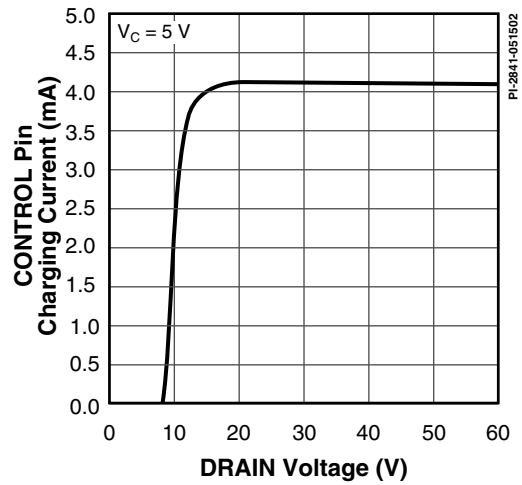

Figure 45. I_c vs. DRAIN Voltage.
- D. It is possible to start up and operate DPA-Switch at DRAIN voltages well below 16 V. However, the CONTROL pin charging current is reduced, which affects start-up time, auto-restart frequency, and auto-restart duty cycle. Refer to Figure 45, the characteristic graph on CONTROL pin charge current (I_L) vs. DRAIN voltage for low voltage operation characteristics.